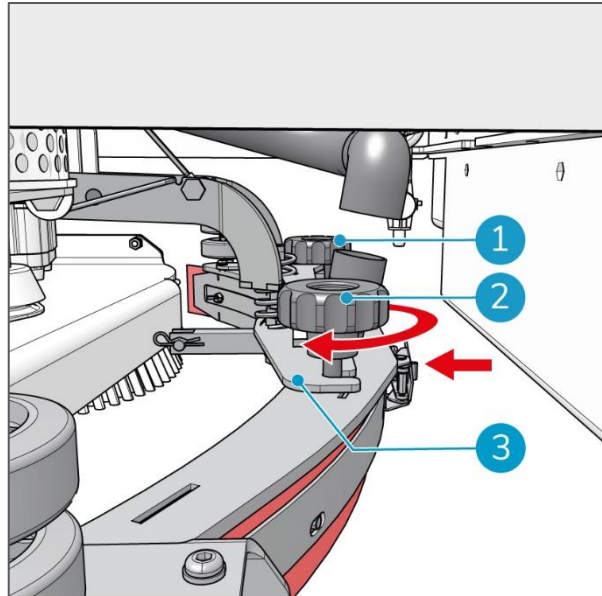

Figure 34
3. Slide the rotary knob of the squeegee body, the furthest away from you (Figure 34, pos 1), into the cutout of the squeegee lifting plate (Figure 34, pos 3). Make sure to push it fully into the cutout.
4. Tighten the rotary knob hand tight (Figure 34, pos 1).
5. Repeat for the rotary knob closest to you (Figure 34, pos 2).